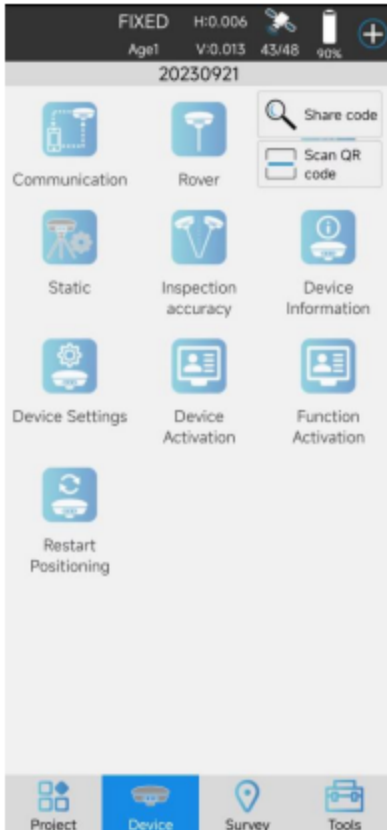

Figure 2.13-1
1. Click on the "  " in the software's title bar to enter a share code or scan to receive data shared from other devices, as shown in Figure 2.13-1.